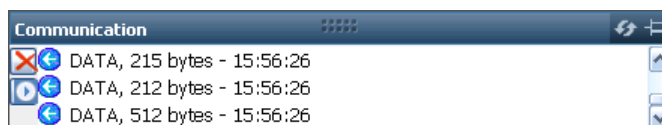

Figure 6: Connection at Incorrect Baud Rate
-  **COM Port Connection:** Scrolling lines designated as “DATA” indicate a connection is established but the baud rate is not correct (see Figure 6). Reopen the *Port Configuration* dialog box.